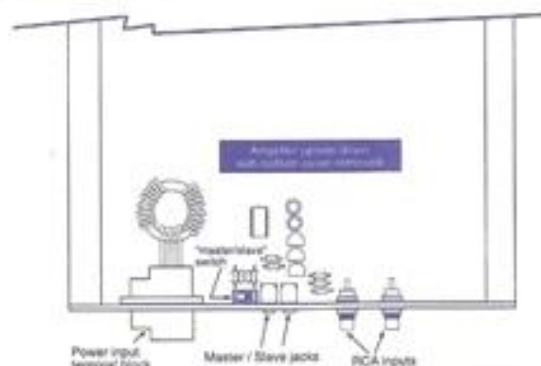

Figure 12 Master/Slave Switch
2. Inside the amplifier is a PCB mount slide switch next to the master/slave jacks. Switch the amplifier into the "Master" position by moving the switch away from the blue dot. All amplifiers are shipped in the "Slave" position. (See Figure 12)